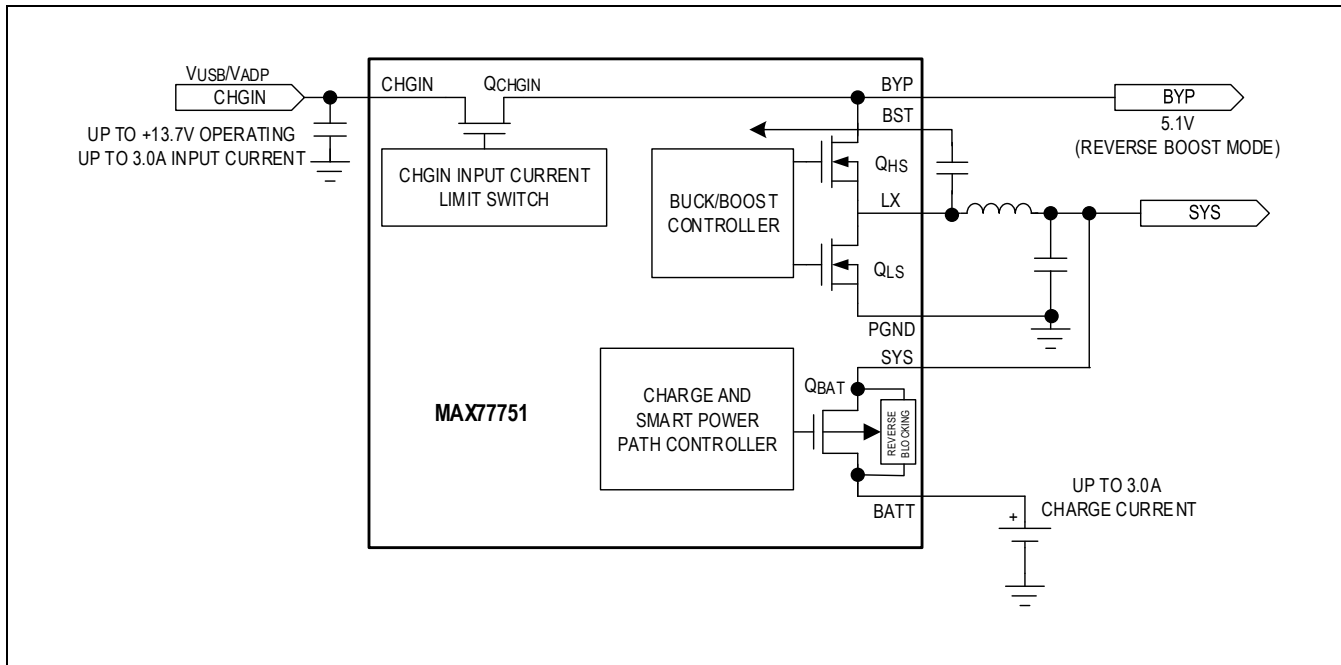
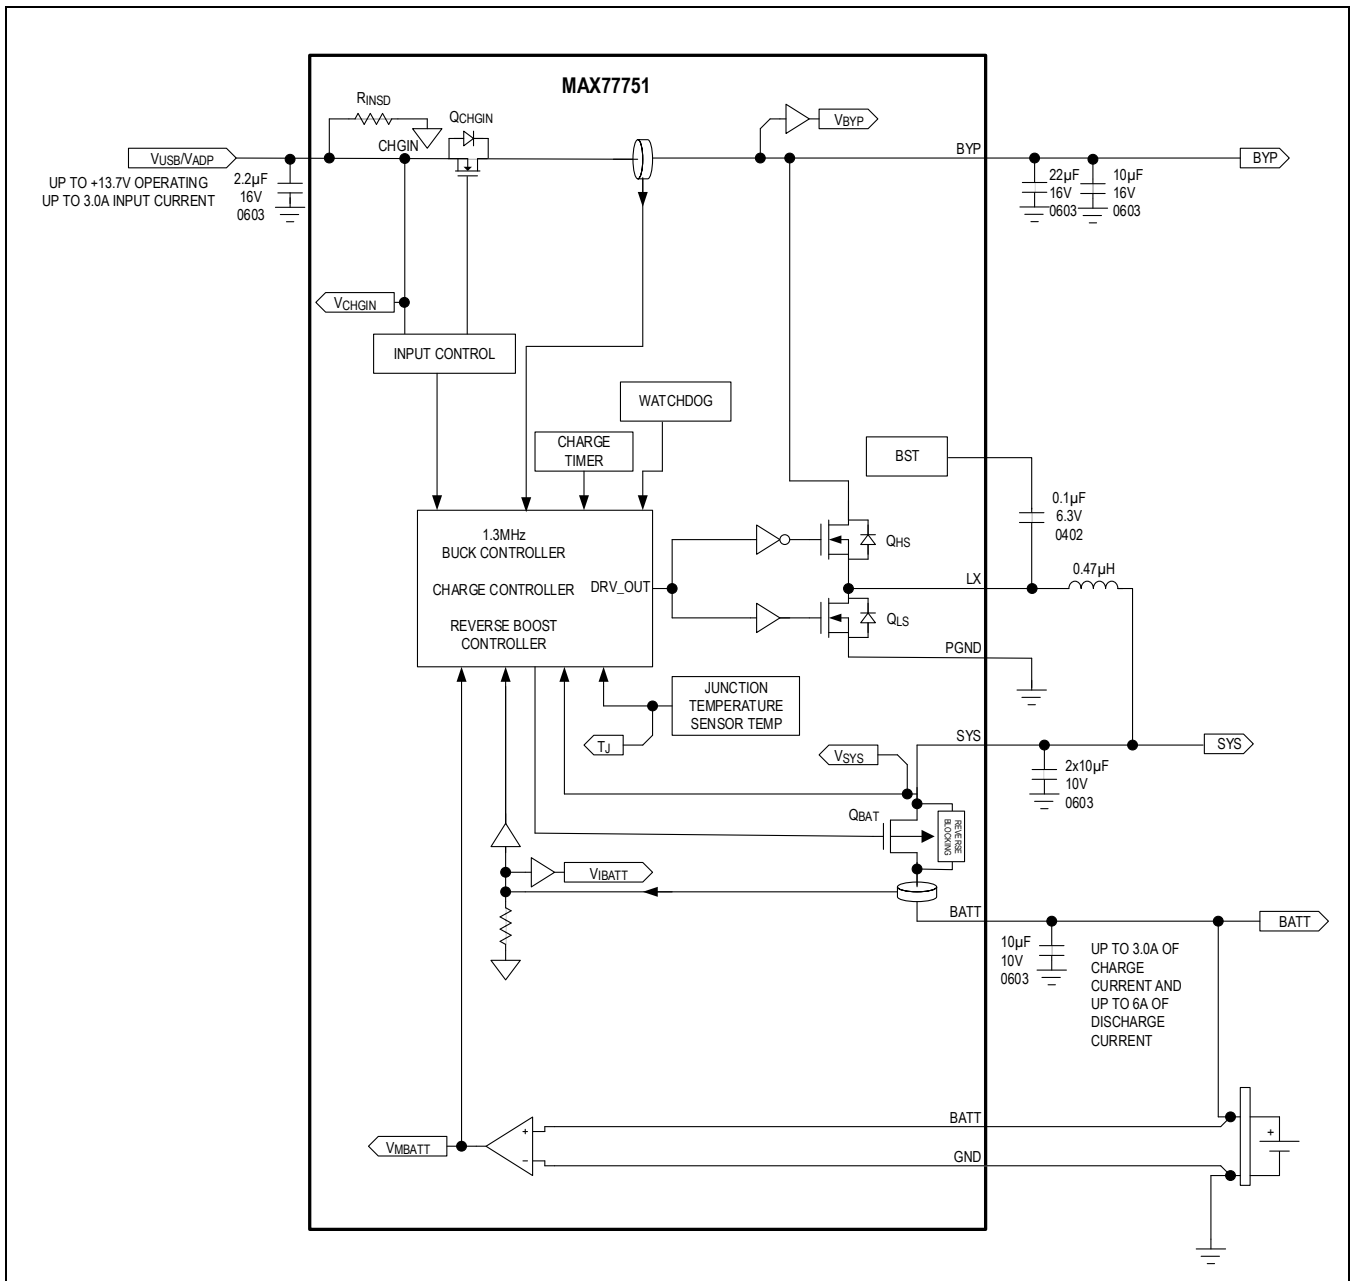

Figure 1. Simplified Functional Diagram
Figure 2. Battery Charger Detailed Functional Diagram
The MAX77751 includes a full-featured switch-mode charger for a one-cell lithium ion (Li+) or lithium polymer (Li-polymer) battery. As shown in Figure 2, the current limit for the CHGIN input is automatically configured allowing the flexibility for connection to either an AC-to-DC wall charger or a USB port.
Figure 1 shows a simplified arrangement for the smart power selector's power steering switches. Figure 2 shows a more detailed arrangement of the smart power selector switches and gives them the following names: Q_{CHGIN}, Q_{HS}, Q_{LS}, and Q_{BAT}.
- CHGIN Input Switch: Q_{CHGIN} provides input overvoltage protection of +16V. The input switch is either completely on or completely off. As shown in Figure 2, there are SPS control loops that monitor the current through the input switches as well as the input voltage.